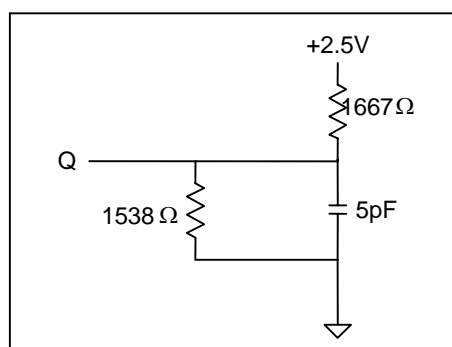

Figure 2
3. The load used for V_{OH}, V_{OL} testing is shown in Figure 2. AC load current is higher than the shown DC values. AC I/O curves are available upon request.
2. Output loading is specified with $C_1=5\text{pF}$ as in Figure 2.